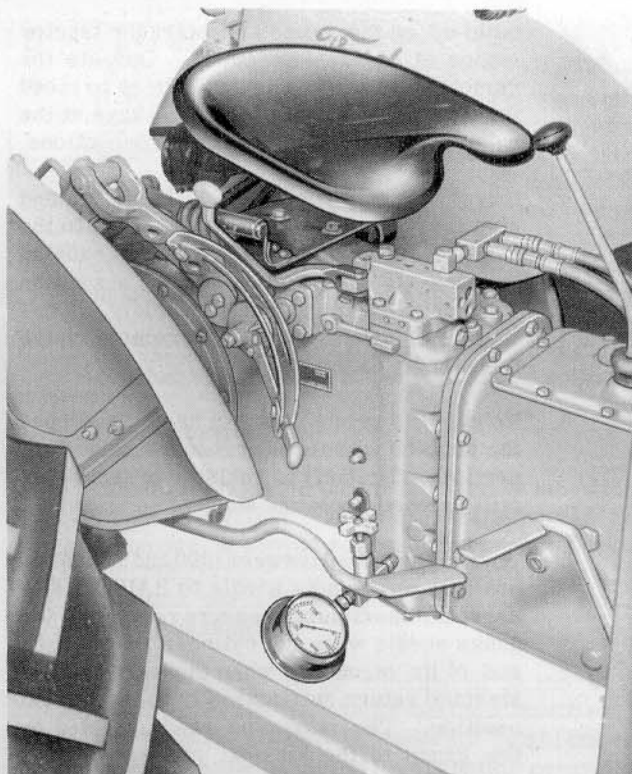

Figure 12
2. Install a pressure gauge (0 to 3000 PSI) equipped with a shut-off valve, to be used as a damper, to the 3/8" pressure port of the tractor primary hydraulic system. See Figure 12.